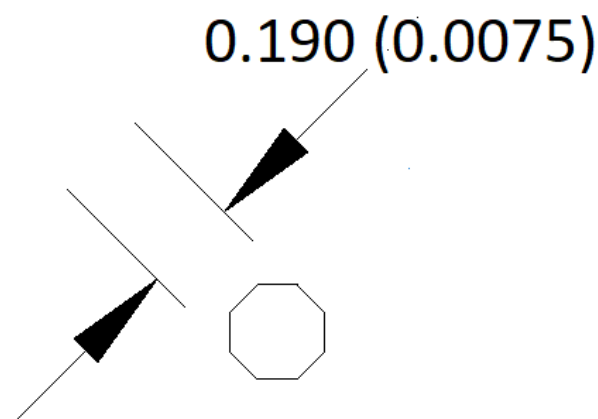

Figure 4: Aperture Details
3. The optimum aperture for each bump is octagonal and is detailed in Figure 4., dimensions are in mm (inches). This was developed through numerous solder trials and yields the best solder joint.